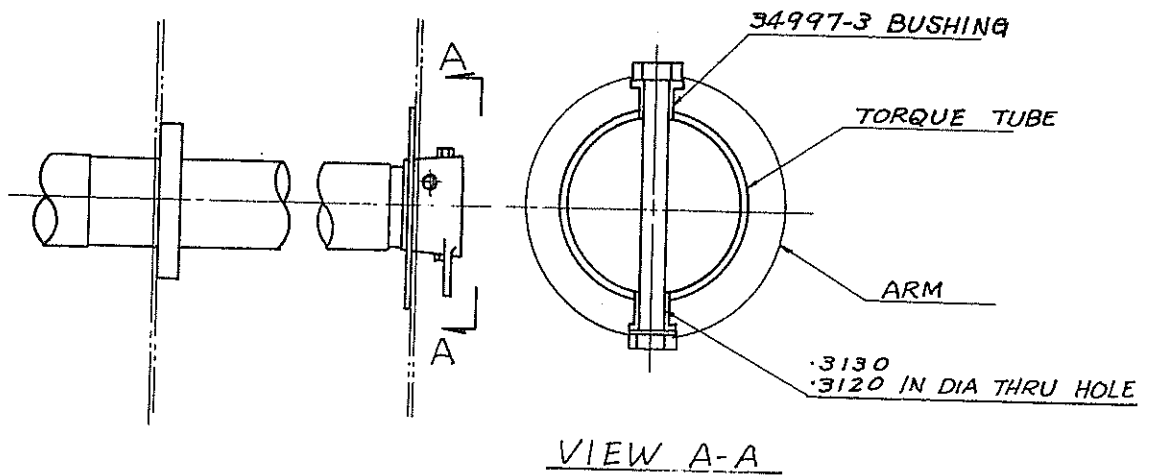

FIGURE 1. ILLUSTRATION OF BUSHING INSTALLATION
- (6) Install two bushings, 34997-3, into each thru hole as illustrated in figure 1.
- (7) Install arm on torque tube with hardware removed in the previous step (2). Place washers as required for adjustment. (Use at least one washer under nut.)
- (8) Install rod in reverse of the removal procedure, and check for smooth travel of control surface by moving flap control handle. Safety bolt attaching push-pull rod with new cotter pin, MS24665-134.